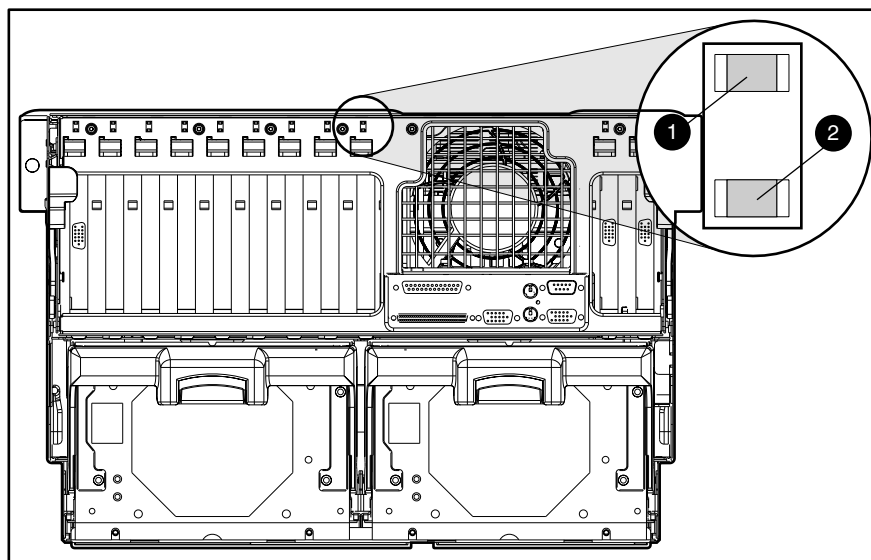

Figure 4-8. PCI Hot Plug LED indicators from rear of server
The PCI Hot Plug amber LED ❶ and green LED ❷ indicators (shown in Figure 4-8, for one slot) provide a visual reference of the status of the corresponding slot. The LEDs are viewed from the rear of the server or by opening the top access panel.